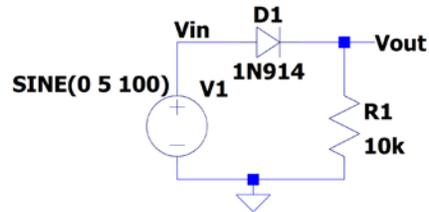

Figure B-5.
- **B.2** Create the circuit shown in Figure B-5 in LTspice:
- Obtain a graph of the input and output voltages,  $V_{in}$  and  $V_{out}$  if you label your schematic as is shown in Figure B-5.